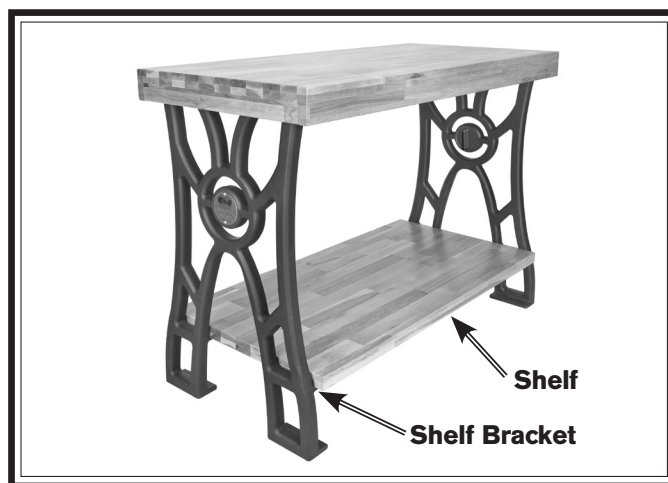

Figure 5. Shelf placement.
7. Place your shelf onto the shelf brackets, as shown in **Figure 5**, then mark drill holes through the holes on the shelf brackets.